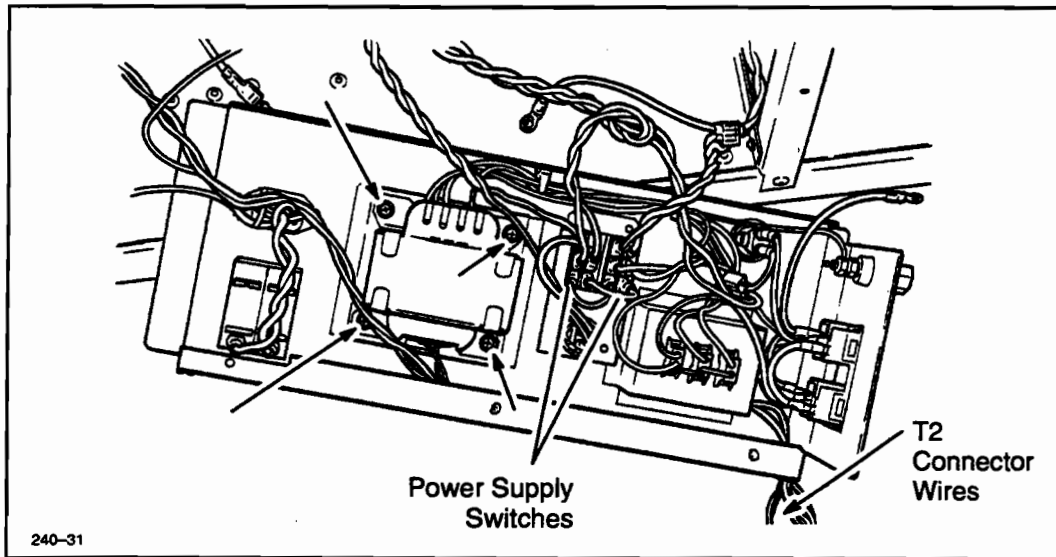

Figure 6-29. Pump Transformer and Power Supply Switches
3. Disconnect the transformer wiring. See Figure 6-29.
3. Disconnect the wiring from the selected power supply switch. See Figure 6-29.